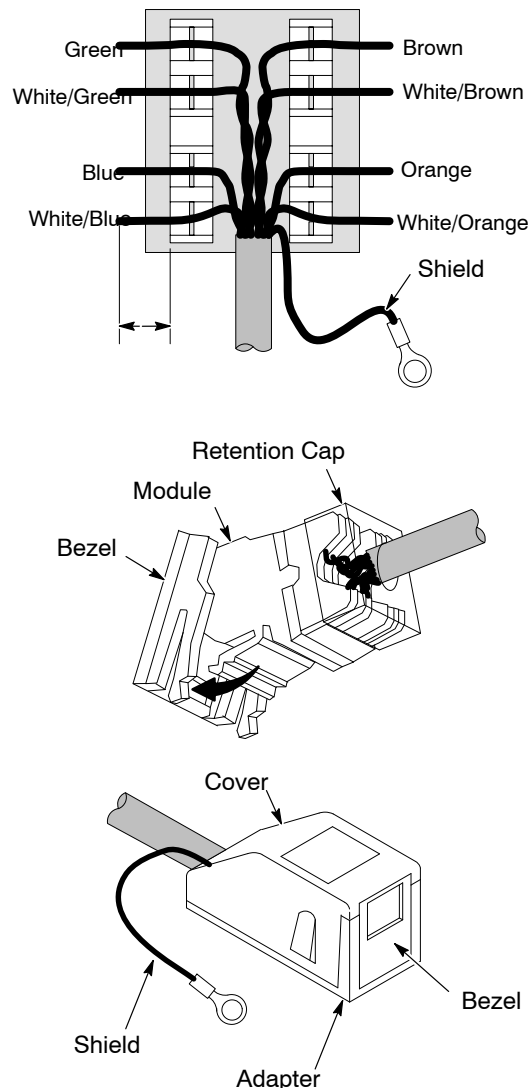

Figure 3-11 Ethernet Cable Connection to Termination Module
6. See Figure 3-11. Arrange the twisted pair wires in the module according to the T568-B wiring scheme, with the ends at least 1/4 in. through the terminals. Retain the twists in the wires as close to the terminals as possible. Use a 110 punch-down tool to attach the wires.